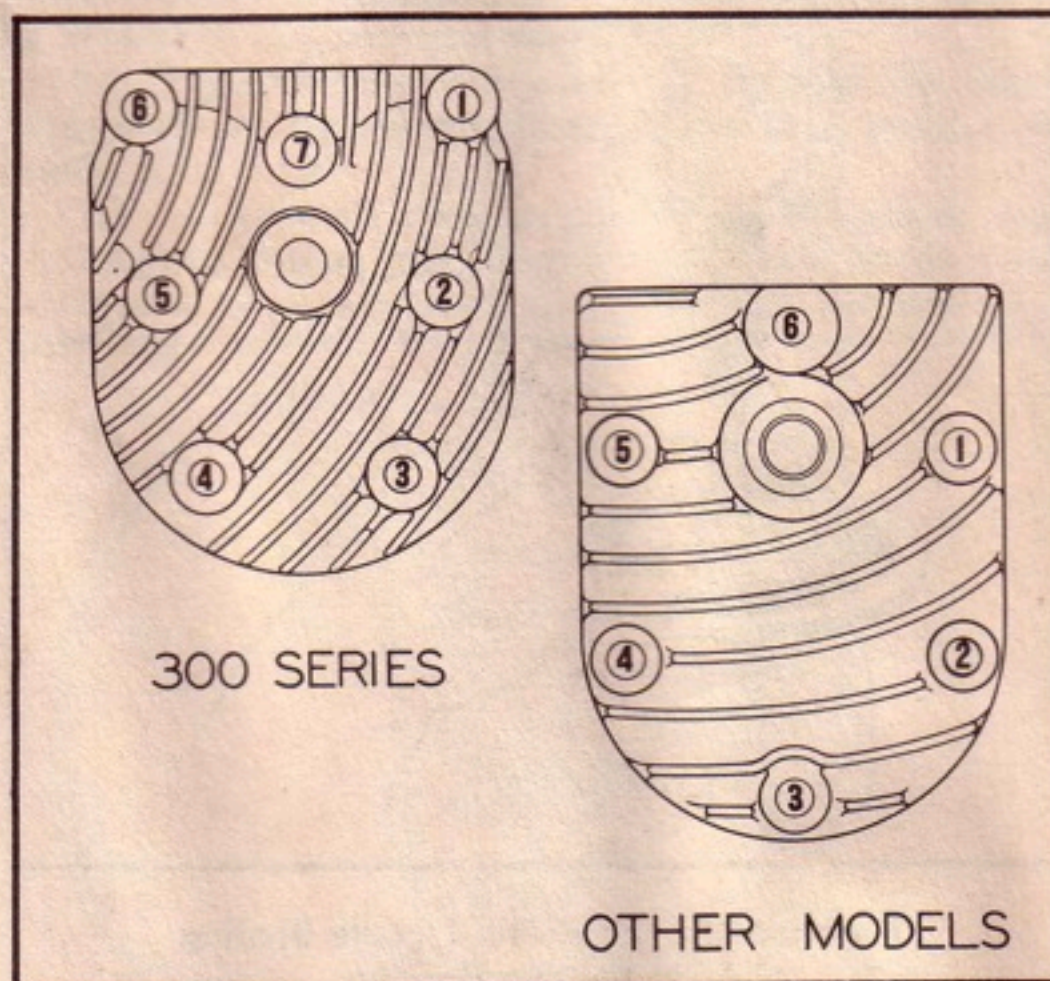

Figure C-34. Cylinder Head Tightening Order
a. Tighten all cylinder head bolts lightly, then pull each bolt down a little at a time in accordance with the order shown in figure C-34.